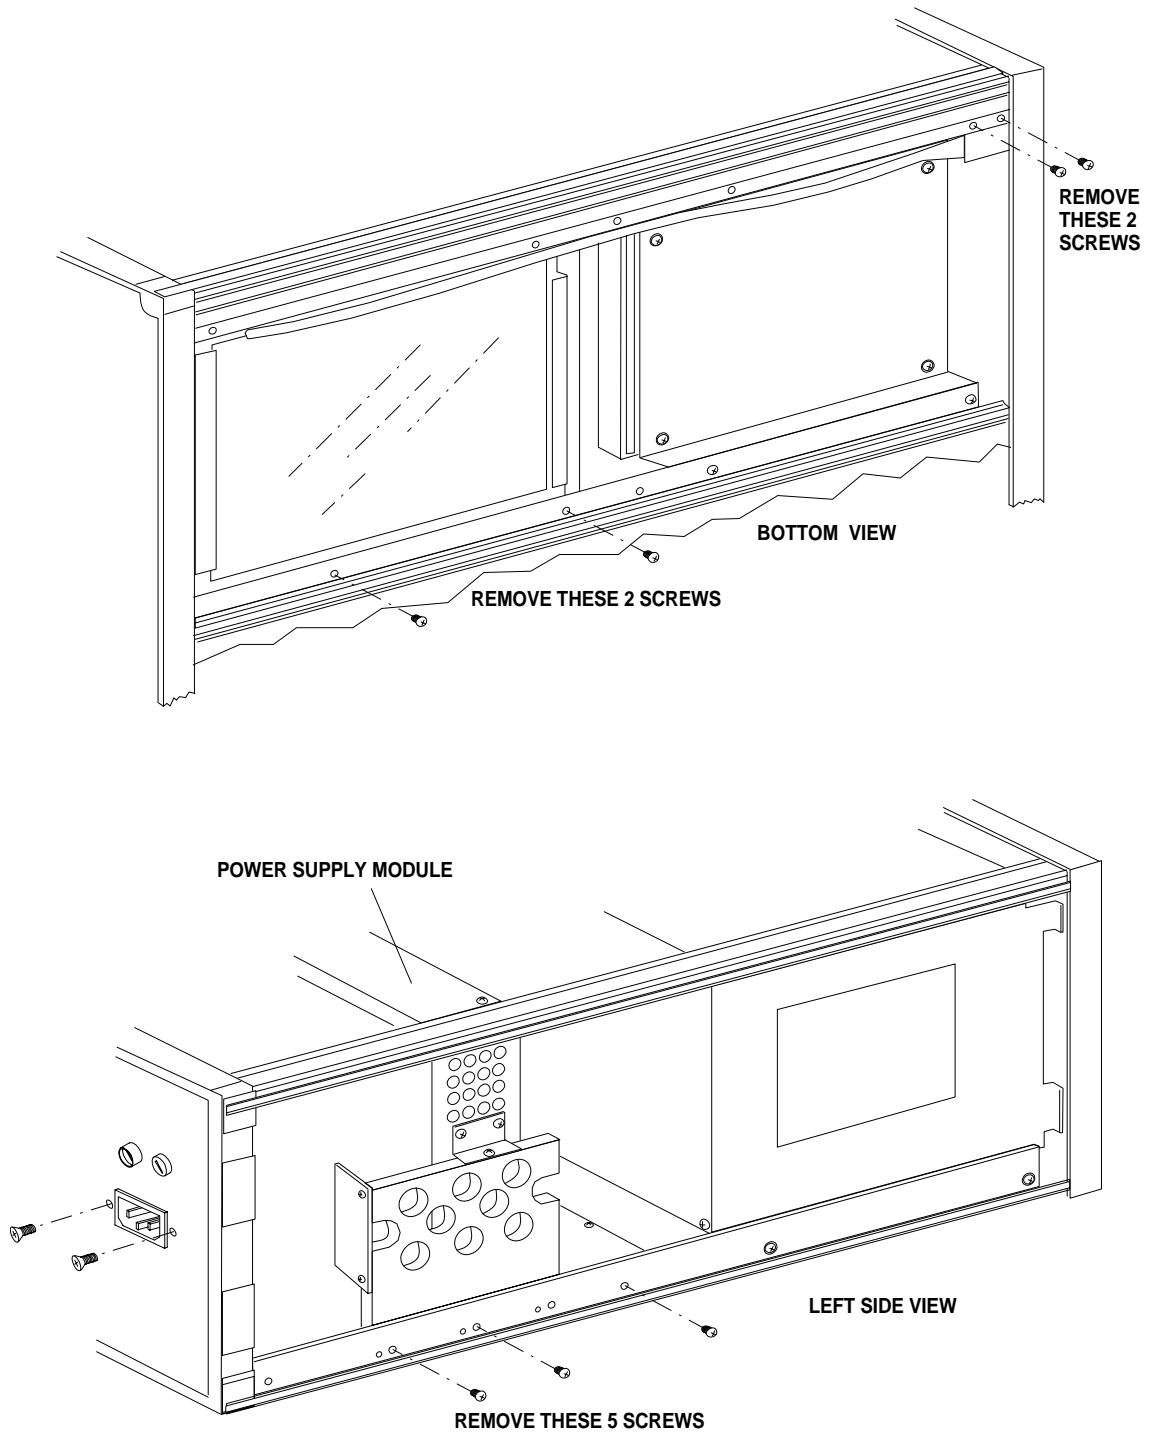

Figure 7-6. *Removing the Power Supply Assembly*
- Step 2.*** Remove the two screws that fasten the Power On/Off switch mounting bracket to the chassis (Figure 7-6, top).